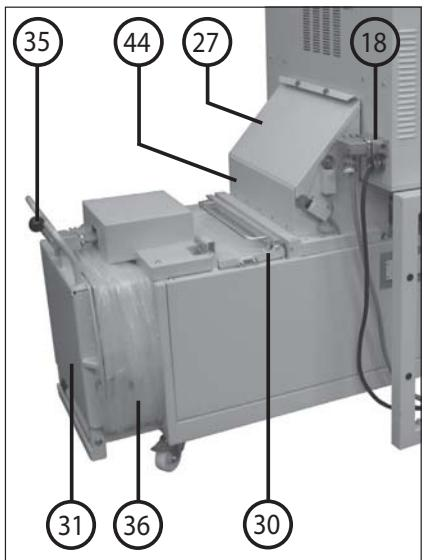

fig. 2
If the space in the hopper (44) (fig. 2) is completely filled with cutting material due to a jam in the filler hole of the baler, the machine switches off when the cover flap (27) is raised (fig. 2). The display (9) „Jam outlet“ flashes .